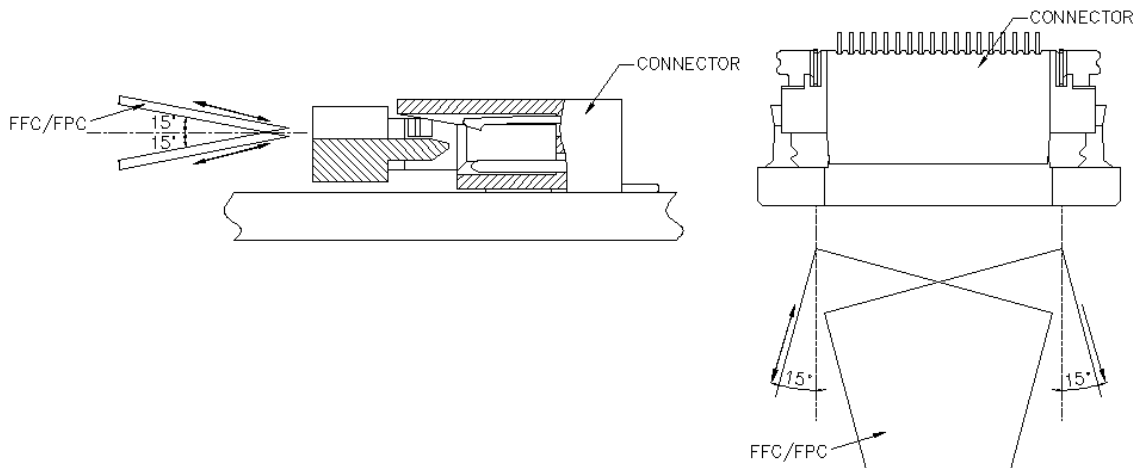

Figure 6.
- FPC/FFC to be insertion and withdrawal at an angle of about  $15^\circ$ , and the FPC/FFC should be inserted firmly all the way to the back. (see figure 6).